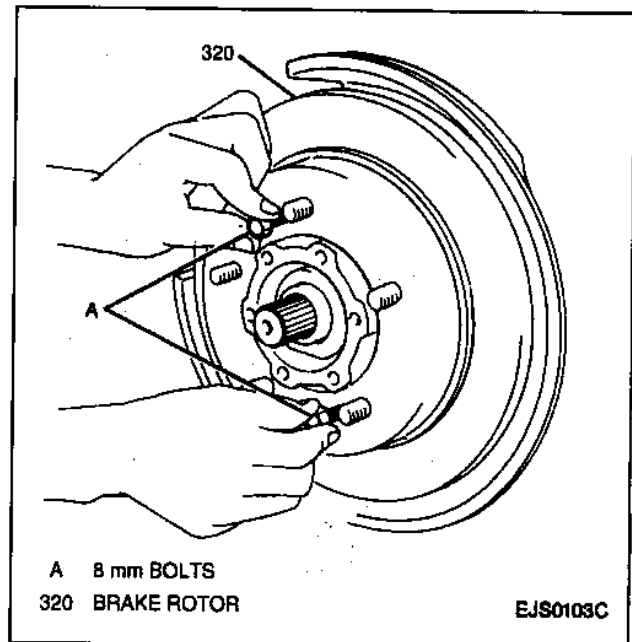

Figure 10—Removing Brake Rotor
- Brake rotor from wheel hub. If rotor cannot be removed by hand, install two 8 mm bolts into rotor. Tightening the bolts will force rotor off (Figure 10).